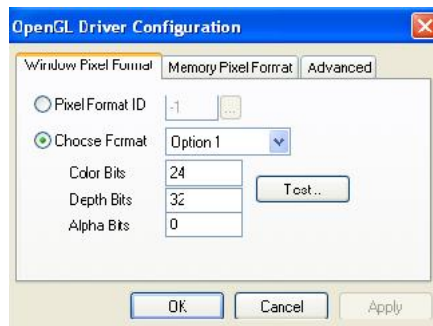

Figure 5-95: *OpenGL Driver Configuration* dialog box
4. In the OpenGL Driver Configuration dialog box (figure 5-95), select **Pixel Format ID** and enter this number.